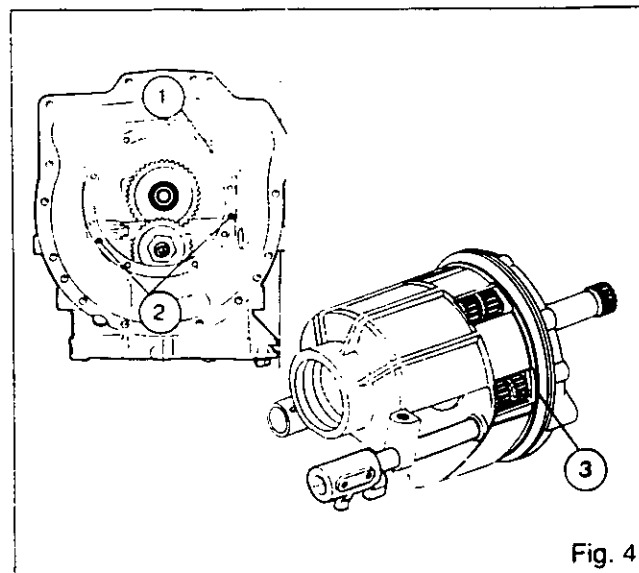

Fig. 4
**N.B.: Keep locating pin (1) but discard O-rings (2) and (3) (Fig.4).**